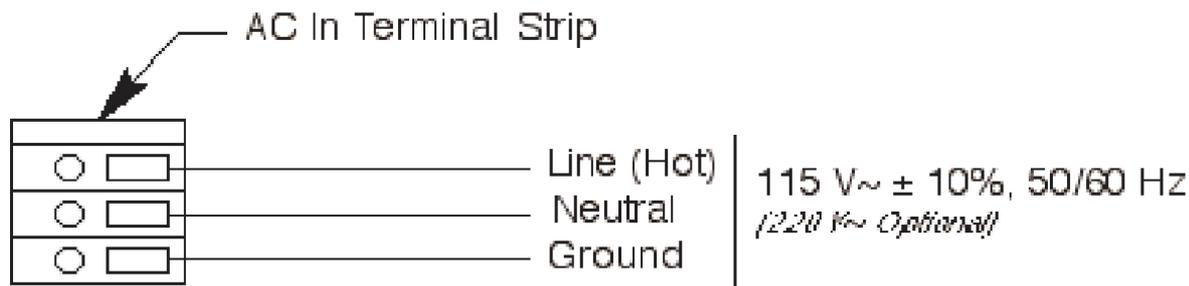

Figure 6: AC Power Wiring
6. Connect the AC wires to the AC power terminal strip as shown in Figure 6